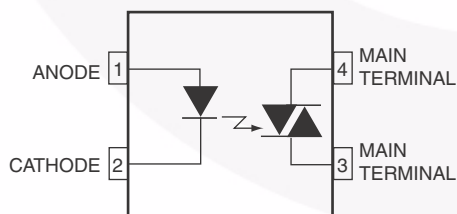

Figure 1. Functional Schematic
- This is static dv/dt . See Figure 1 for test circuit Commutating dv/dt is function of the load-driving thyristor(s) only.